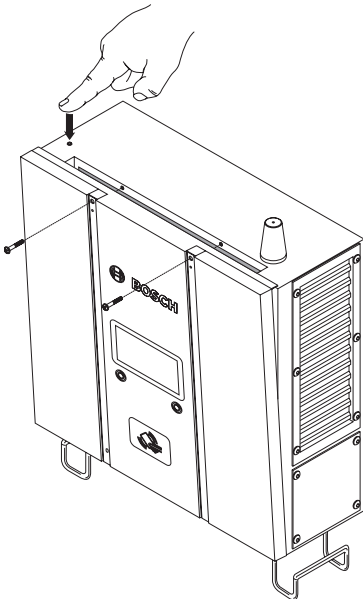

Fig. 9: Removing front cover
1. Remove two M5 screws from the front cover of the EV 3000 charging unit (see Fig. 9).
2. Press the cover release button on the top left corner of the EV 3000 charging unit (see Fig. 9).